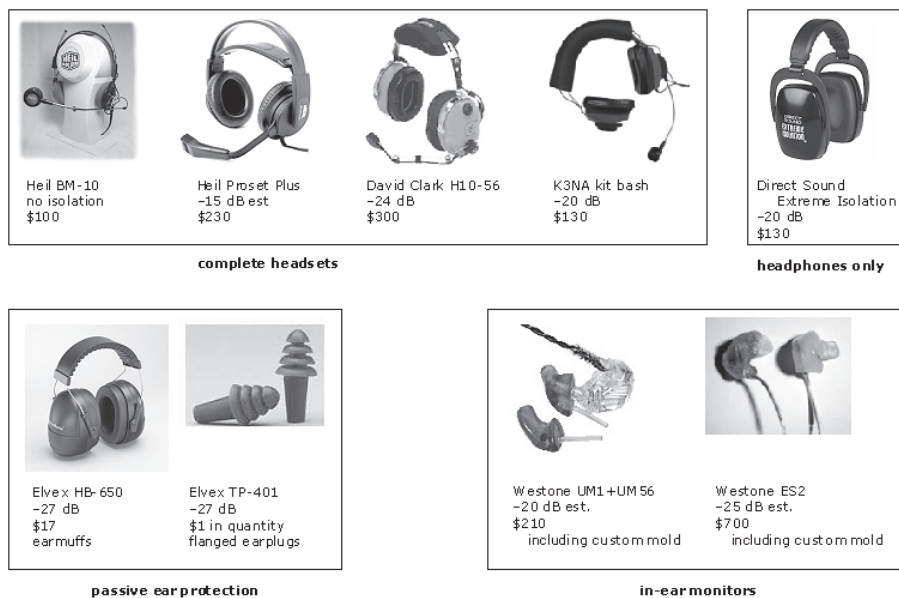

Figure 5—Examples of headsets and components that one may combine for high isolation from ambient noise. Figures in dB are mean isolation between 200–3000Hz.
Figure 5 shows several popular headsets with significantly different isolation characteristics. Figure 6 shows isolation as a function of frequency for typical earmuffs and earplugs discussed in the next few sections. Note that operators wearing eyeglasses experience a 3 to 8 dB reduction in isolation caused by sound leaking around the eyeglass stems. Use wire stems to minimize sound leaks. Wire stem glasses also transmit much less force from the earmuff to the tip of the stem behind the ear, reducing spot irritation during long-term wear.
Figure 5 (top, center right) shows an early prototype. An inexpensive set of earmuff protectors, purchased from the local hardware store, form the basis of this project.
In-ear monitors such as those shown in Figure 5 (bottom right) contain very tiny, low-power, high fidelity speakers that sit in the ear canal as part of the earplug. By using in-ear monitors to-
In-ear monitors fall into two broad families (see Figure 5 lower right):
- Detachable units, shown on the left in Figure 5: The monitor, a separate unit, fits into a specialized earplug. The plug contains one or two tunnels to carry the sound from the monitor speakers into the ear canal. Both "universal" earplugs (similar to the PU foam cylinder or flanged TPE insert) and customized molded earplugs (with better isolation and comfort but at extra cost) are available.